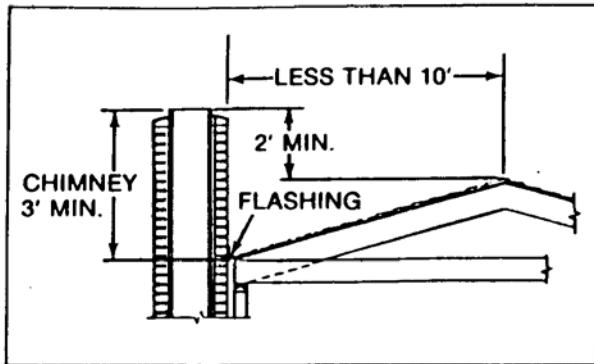

Figure 12
1. If the horizontal distance from the side of the chimney to the peak of the roof is 10 feet or less, the top of the chimney must be at least 2 feet above the peak of the roof, but never less than 3 feet in height above the highest point where it passes through the roof. See Figure 12.